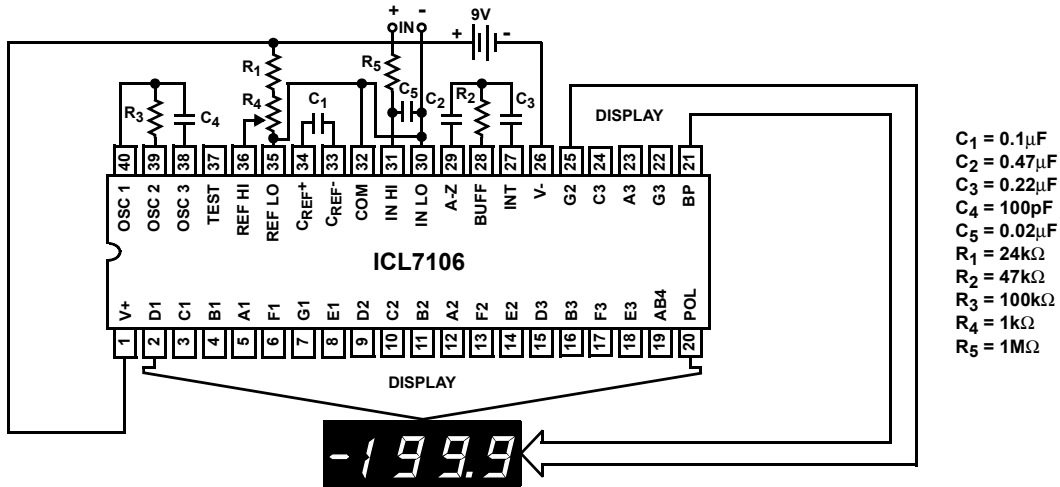
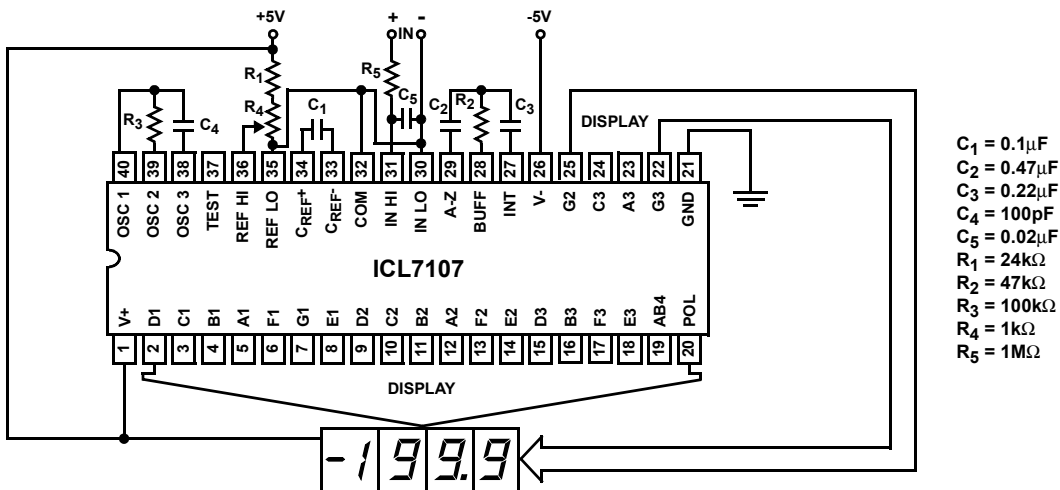

FIGURE 1. ICL7106 TEST CIRCUIT AND TYPICAL APPLICATION WITH LCD DISPLAY COMPONENTS SELECTED FOR 200mV FULL SCALE
FIGURE 2. ICL7107 TEST CIRCUIT AND TYPICAL APPLICATION WITH LED DISPLAY COMPONENTS SELECTED FOR 200mV FULL SCALE
3. Unless otherwise noted, specifications apply to both the ICL7106 and ICL7107 at $T_A = 25^\circ C$, $f_{CLOCK} = 48kHz$. ICL7106 is tested in the circuit of Figure 1. ICL7107 is tested in the circuit of Figure 2.